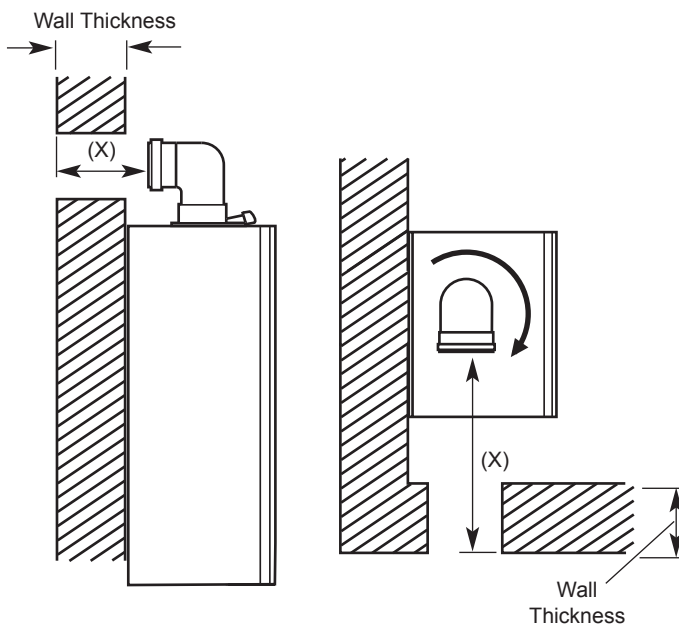

Fig. 25
3. Locate the flue elbow on the adaptor at the top of the boiler. Set the elbow to the required orientation (Fig. 25).
4. Measure the distance from the outside wall face to the elbow. This dimension will be known as 'X' (Fig. 25).
5. If the distance from the flue elbow to the outside face of the wall ('X' in Fig. 25) is less than 250 mm the Connection Assembly can be discarded and the Terminal Assembly fitted directly into the elbow.
6. In instances where the dimension 'X' (Fig. 25) is between 250 mm and 315 mm it will be necessary to shorten the Terminal Assembly by careful cutting to accommodate walls of these thicknesses.